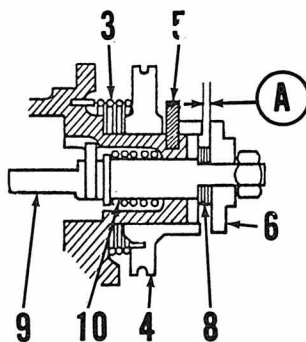

Fig. Y8-7—Clearance (A) is adjusted by varying shims (8).
Check the minimum plunger stroke by turning starter plate (16) until clearance (A—Fig. Y8-7) between pulley and adjusting plate is at minimum. Clearance (A) should be 0.20-0.25MM (0.0079-0.0098 inch). If clearance is incorrect, add or deduct shims (8).